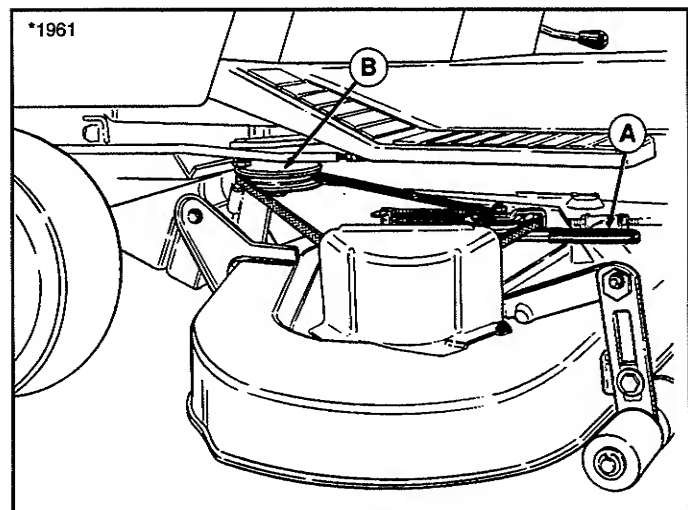

Figure 9. Installing Belt
5. See figure 9. From left side of tractor, pull idler arm (A) towards you to relieve belt tension. Install belt onto the PTO pulley (B).
6. Turn wheels straight ahead. Pull back on spring-loaded idler arm (A, figure 9) and lift mower hitch off of the tractor brackets.